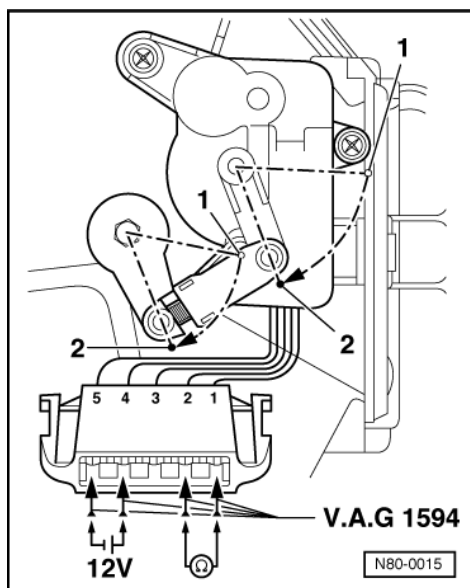

Fig.4 -> Checking resistance of potentiometer -G92- for control motor -V68- when installed
- ◆ Adjusting cable at central flap => Fig. 4
-> Fig.4 Adjusting cable at central flap
- ♦ Check resistance of control motor potentiometer -G92- when installed =>Fig. 4